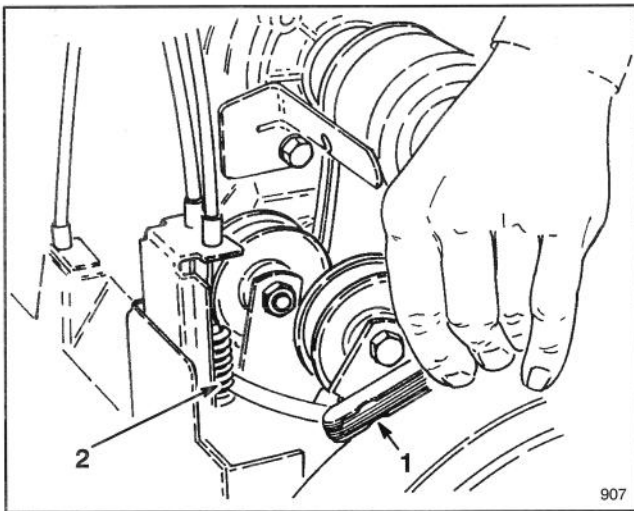

Figure 29
3. CHECKING IMPELLER CABLE ADJUSTMENT—Depress the auger/impeller control lever on the right hand grip. Hold the lever and insert a .010" (.25mm) feeler gauge between a coil in the center of the spring (Fig. 29). Adjust the cable to achieve .010" (.25 mm) gap between the coils.